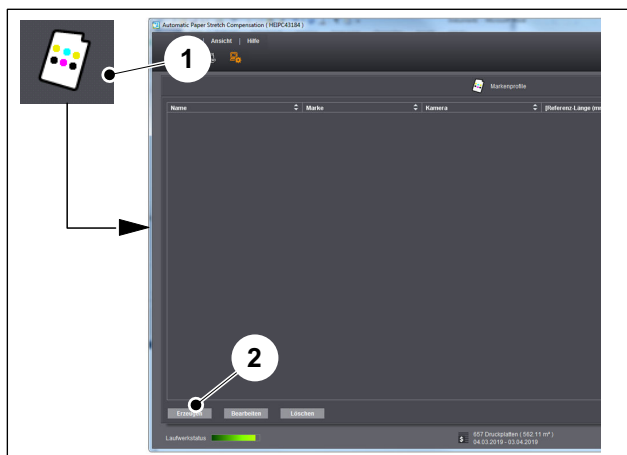
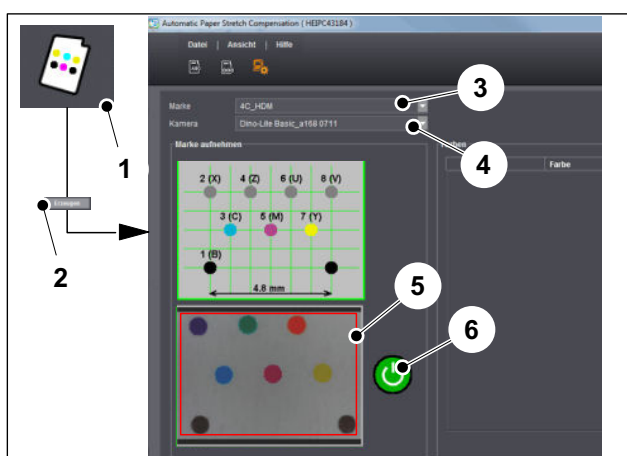

Fig. 10 Dialog box for creating profiles
Fig. 11 Dialog box "Create profile"
1. Start the Prinect APSC software. Go to **Settings**. Select *Mark profiles* (Fig. 10/1).
2. Select *Create* (Fig. 10/2). The dialog box "Create profile" (Fig. 11) is displayed.
3. Select the measuring mark type (APSC 4 or APSC 8) from the list box **Mark** (Fig. 11/3).
4. The list box **Camera** shows all image capture devices connected to the computer. If only one digital microscope is connected, it will be displayed here. If several digital microscopes/image capture devices are connected: Select the digital microscope you want to use for the measurement (Fig. 11/4).
The preview (Fig. 11/5) shows the image of the microscope.
6. Adjust the digital microscope until all color dots are within the red frame (Fig. 11/5). The black frame of the measuring mark must be outside the
- When the red frame is positioned correctly, take a picture of the measuring mark (green image button, Fig. 11/6).